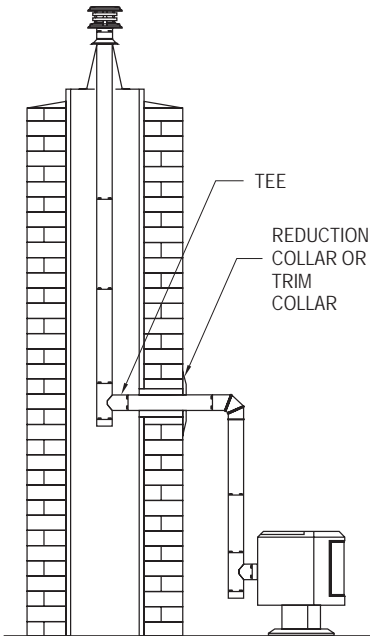

Figure 16
1. Set the appliance in its final location and mark the center of the hole where the pipe is to penetrate the masonry chimney (*Figure 16*). Insure that you comply with the manufacturer's specifications in regards to clearance and distances from combustible surfaces.
- B. A Tee is installed at the bottom end of the vertical pipe (*Figure 16*).
- C. A Reduction Collar or a Trim Collar is required to go around the pipe section that passes through the masonry to give it a finished look (*Figure 16*).